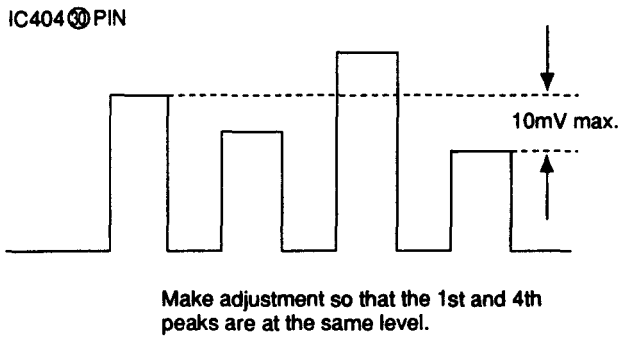

Fig. 5-18
- 2) Connect the probe of an oscilloscope to IC404 ③ PIN or TP402.
- 4) Adjust **CHROMA NTSC 358 NOR** so that the peaks of waveforms will be flush with each other as shown in Fig.5-18.
- 2) Adjust **CHROMA NTSC 358 ACC OFF** in the same way as 10-4. shown above. (Fig.5-18)